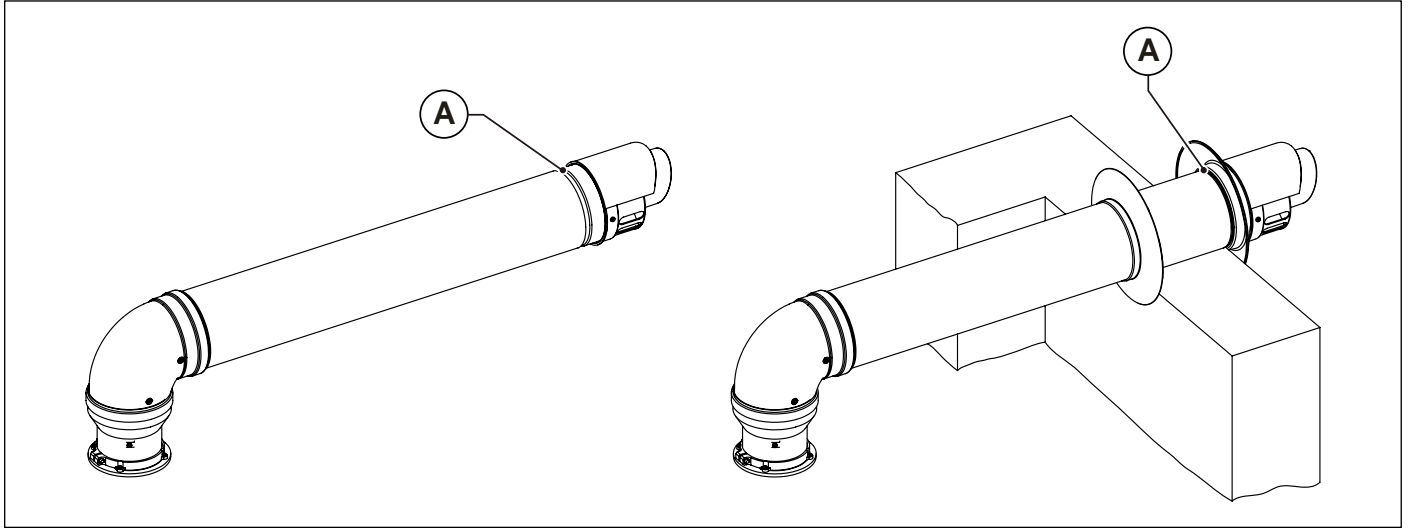

Fig. 12 Wall-mounted terminal installation
The final parts of air intake and flue gas venting terminals, both split and coaxial, feature a groove (A) to fix the external collar (see Fig. 12 Wall-mounted terminal installation).